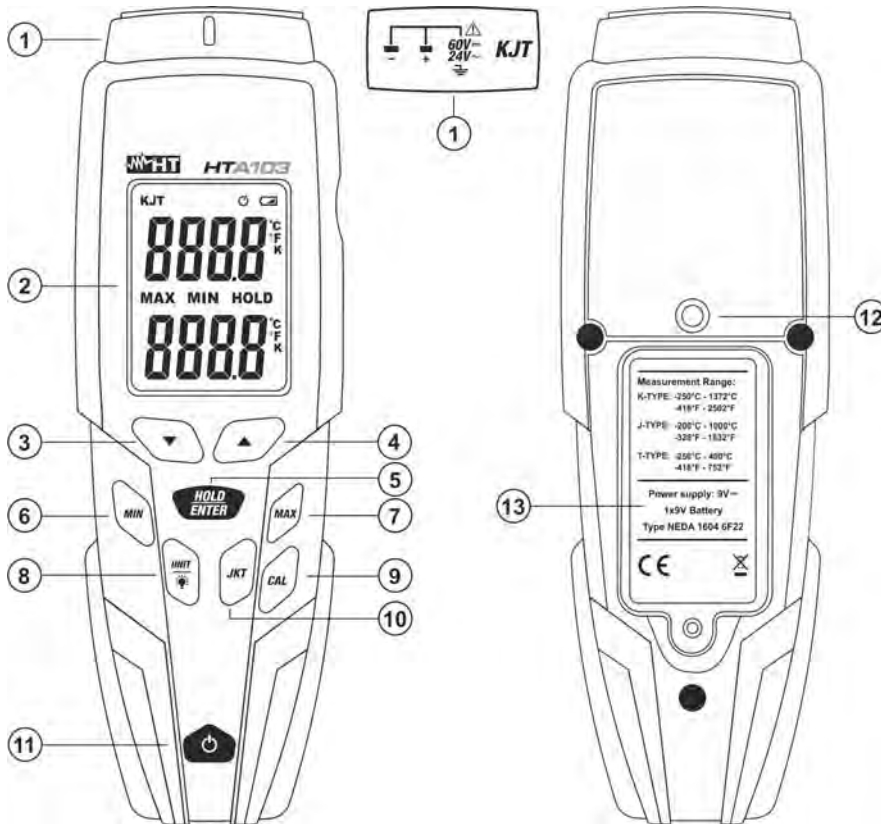

Fig. 1: Instrument description
3. Insert the connectors of the probe on input terminal respecting the polarity (+) and (-) (see Fig. 1 – part 1) shown on the instrument and on the probe connector
3. Remove the battery cover (see Fig. 1 – part 13)